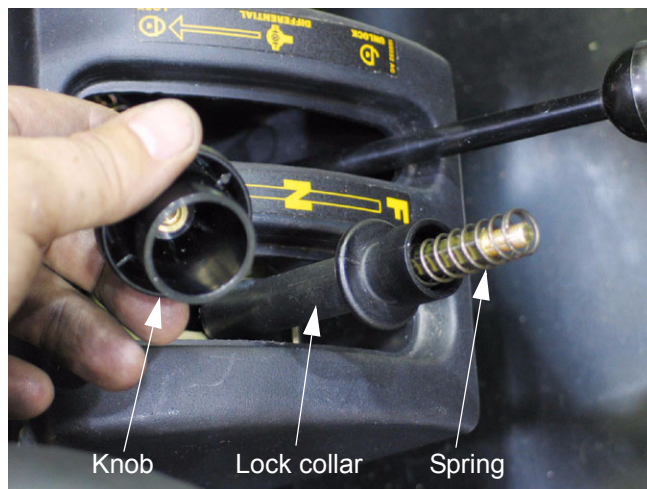

Figure 4.8
- 4.8. If the shift control is to be removed, the knob must be taken off the shift lever. It threads off. See Figure 4.8.